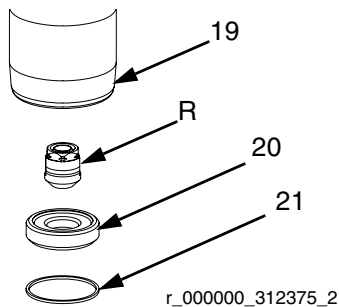

FIG. 10
11. Use an o-ring pick to remove seal (21) from intake valve housing (19). Discard seal; use a new one for reassembly. See FIG. 10.
12. Pull intake seat (20) out bottom of intake valve housing (19). Take care not to drop intake valve assembly (R) as it comes free, and set it aside for later.